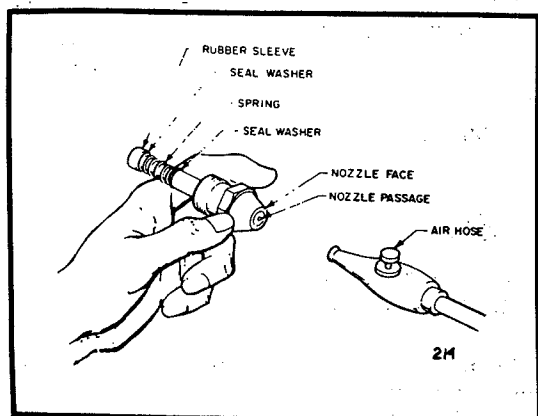

Figure 7. Blowing Out Nozzle
4. Soak the remaining parts of the burner head assembly for one hour in non-flammable liquid cleaning agent. (DO NOT use kerosene or fuel oil). Blow dry through the face (OUTLET) end ONLY. See Figure 7.